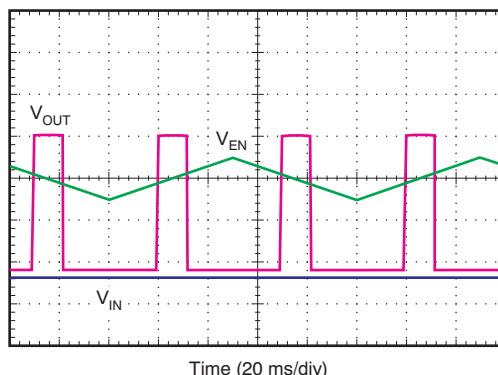

Figure 18. Enable Pin Positive and Negative Threshold
The TPS7A3401 device provides a dual polarity enable pin (EN) that turns on the regulator when $|V_{EN}| > 2\text{ V}$, whether the voltage is positive or negative, as shown in Figure 18.